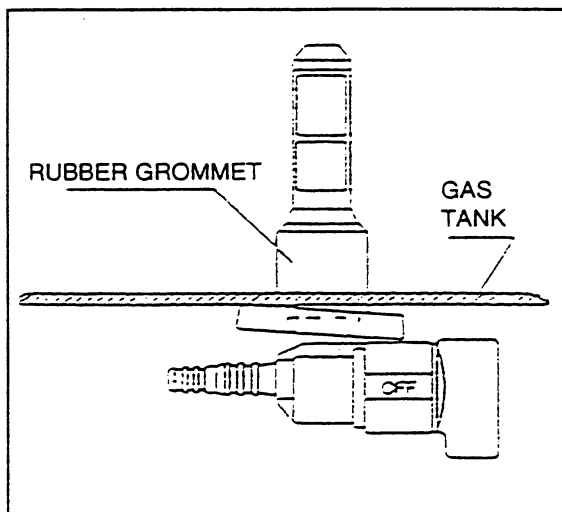

FIGURE 1
**PROBLEM:** Over insertion of the fuel shut-off valve into the rubber grommet can cause elongation of the fuel outlet on the tank. The fuel shut-off valve has a stop built into it, but we have seen the fuel shut-off valve pushed beyond the stop (Figure 1).